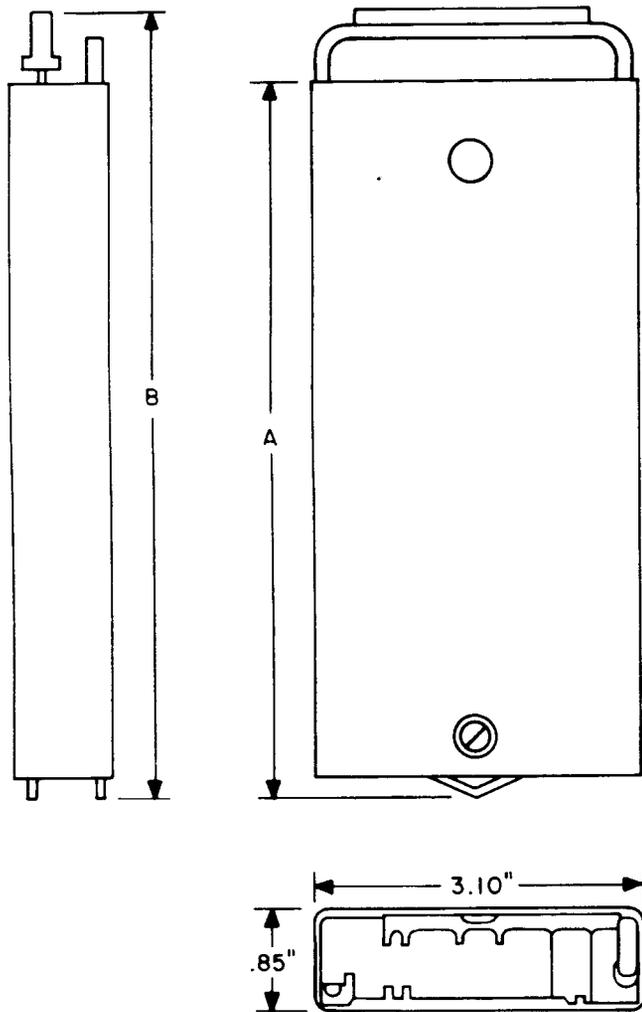

Fig. 14—977-Type Connectors
2.10 977A, B, C, and D: The 977-type connectors (Fig. 14) consist of a printed wiring board with one end having printed wiring terminals which serve as a connector. The connectors are provided with a faceplate, handle, and a backplate, all of which are enclosed in a metal can. The dimensions for the 977A and B connectors are: A = 5.90 inches and B = 6.60 inches. The dimensions for the 977C and D connectors are: A = 7.40 inches and B = 7.95 inches. The connectors are used on the tantalum integrated circuit (TIC) 479-type apparatus cases.